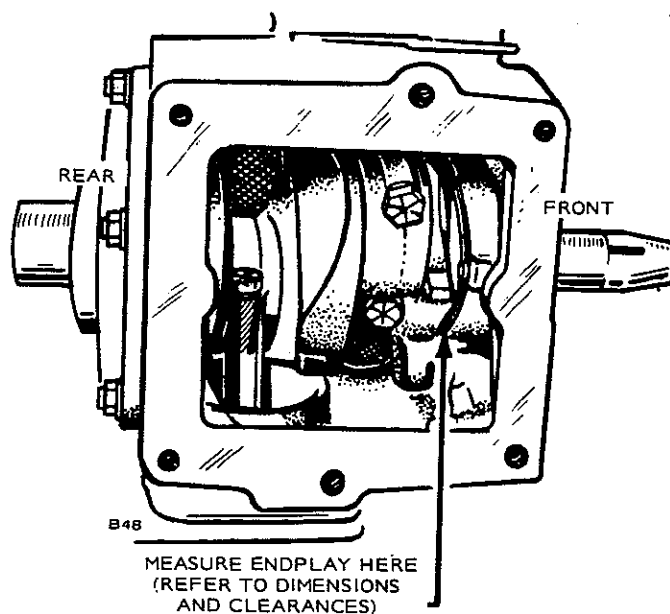

FIGURE 17-2. CRANKSHAFT ENDPLAY
6. **Crankshaft Endplay:** Before removing the crankshaft, check the endplay (Figure 17-2) to determine if it is excessive or not. Too much endplay allows the shaft to move back and forth, causing excessive pounding of the bearings and thrust washers. Too little endplay causes excessive pressure against the thrust washers.